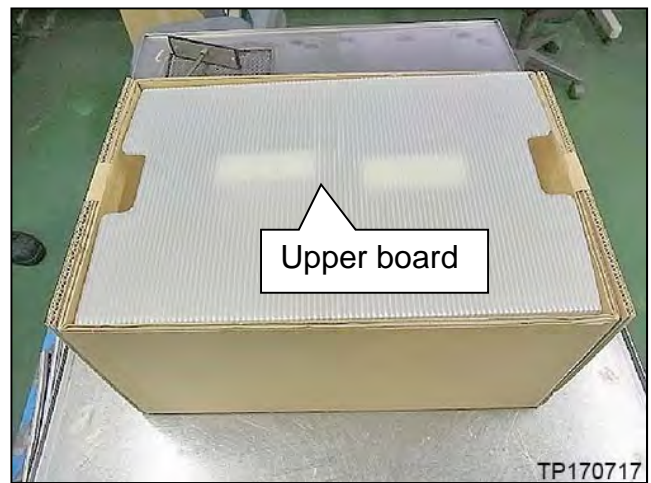

Figure 141
- The packing material may be different than what is shown in Figure 141.